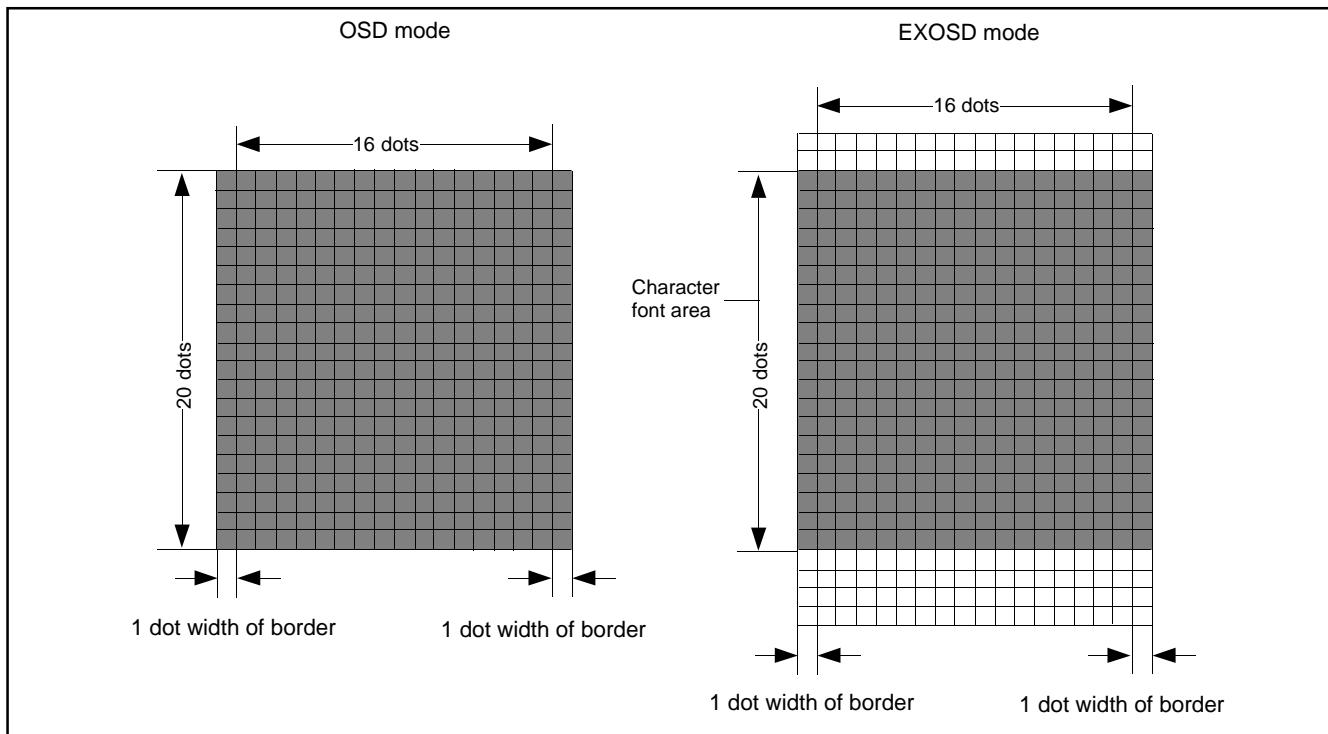

Fig. 75. Border area
- 2 :** The border dot area is the shaded area as shown in Figure 75. In the EXOSD mode, top and bottom of character font display area is not bordered.